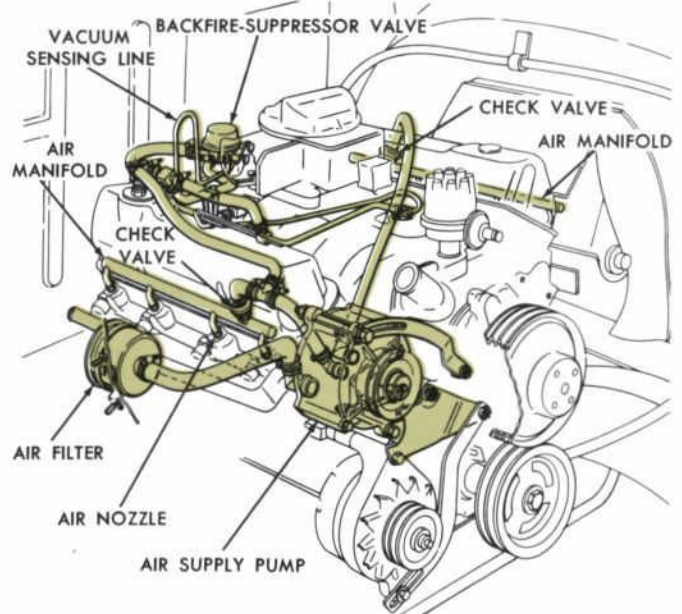

Fig. 12—Thermactor System Installation—
**Gulp System**—Disconnect the vacuum sensing tube at the valve and plug the tube end. Fig. 12.
Disconnect the hose connecting the intake manifold to the backfire valve at the valve end and plug. Fig. 12.
1 Disconnect the rubber hose connecting the air pump to the backfire valve at the valve. Fig. 12. Make certain the hose leading to the intake manifold is free of kinks.